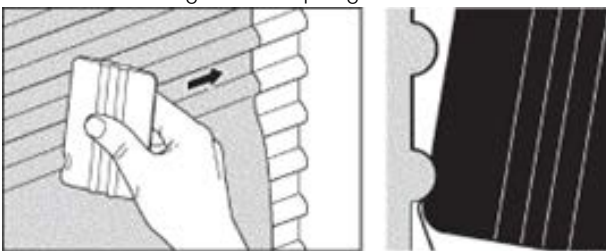

Figure 4. Squeegee the bottom of the corrugation.
5. Squeegee the film along the crown of the corrugation using the edge of the squeegee. Use enough pressure to make the squeegee curl around the corrugation crown. This makes the film drape under the corrugation without pre-adhering it to the flat surface below. See Figure 4.